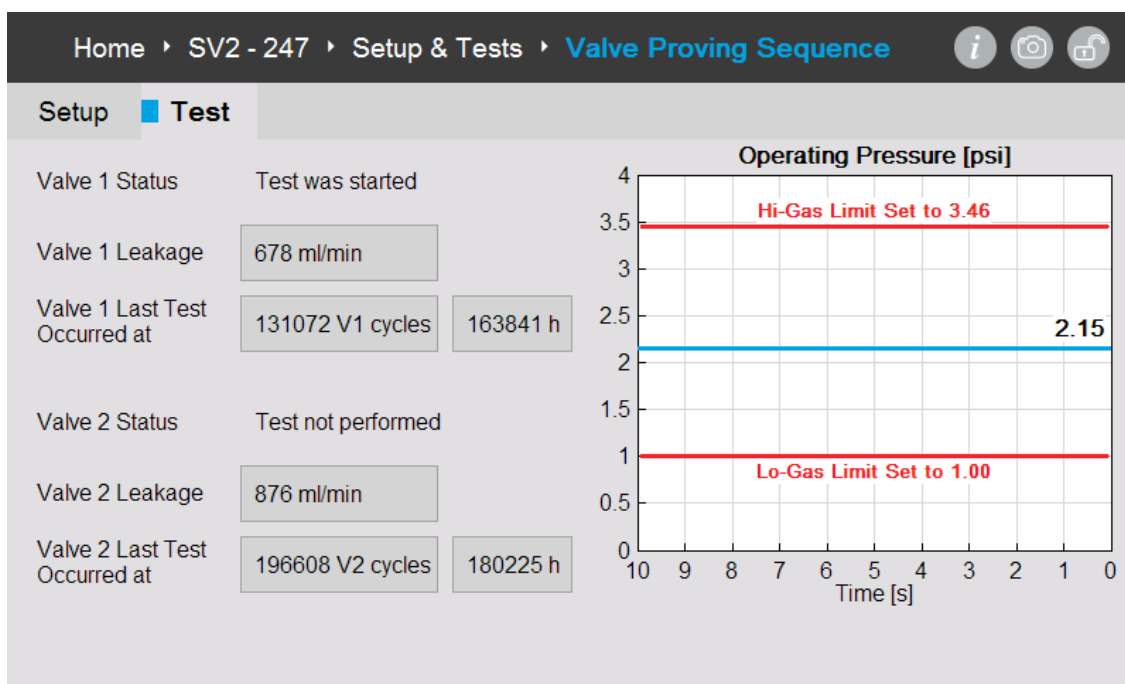

Fig. 39. Setup & Tests – Valve Proving Sequence (VPS): Test.
- Valve Proving Sequence (VPS) is conducted by an external device by selectively powering one valve seat at a time on MV1 / MV2 inputs to the SV2 Series valve. The SV2 Series valve models compatible with external VPS functionality will detect that the VPS sequence is being performed and automatically start the valve internal leak detection routine. SV2 valves use the integrated Pressure Module sensors to monitor pressure rise or decay in the volume between the two safety shut off valve seats. The readings are then compared with the user-selected Leakage Limit threshold (refer to Fig. 38). Based on that comparison, the SV2 Series valve VPS contact output is toggled as selected in the VPS Action setup (pressure to close or pressure to open). Refer to Fig. 38. The contact output action is the same as in a traditional VPS system with a separate pressure switch. Based on the VPS contact output, the external device performing VPS will determine if the VPS test passed or failed. As shown in Fig. 39, the valve leakage test results are stored in the valve memory.
From the Valve Proving Sequence page (Refer to Fig. 39.), select **Setup & Tests**.